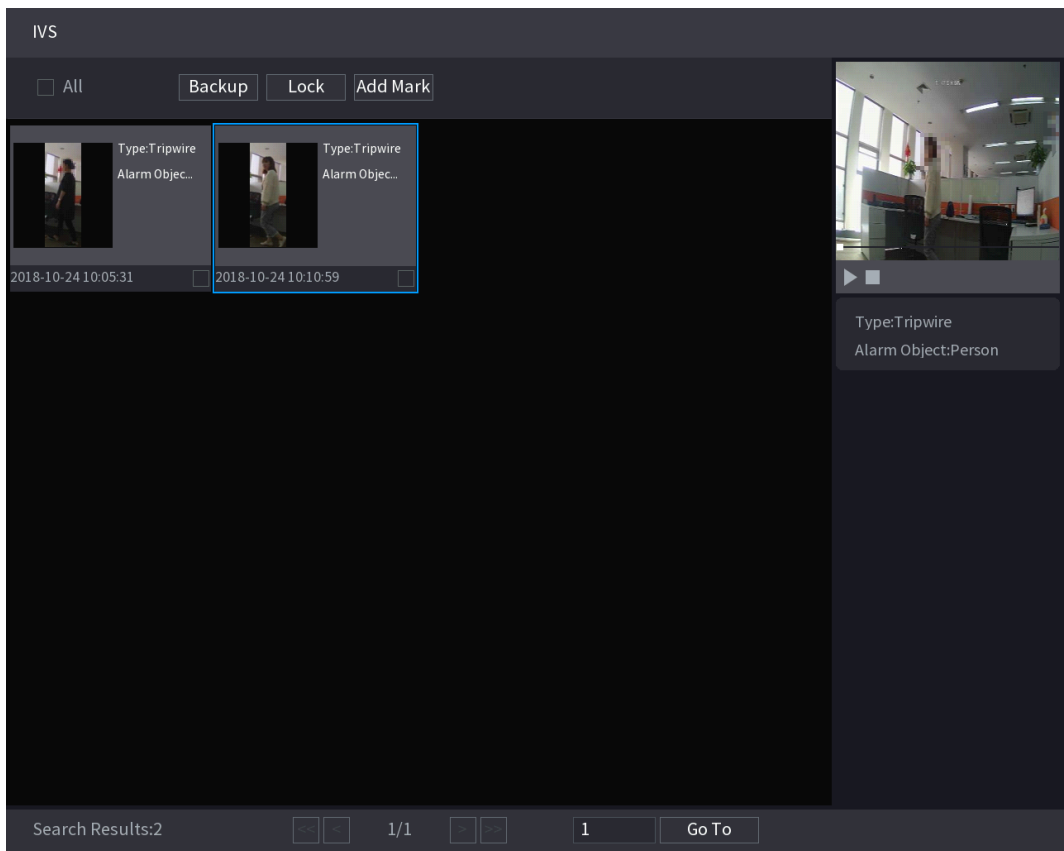

Figure 5-189
Step 4 Click the picture that you want to play back. See Figure 5-189.